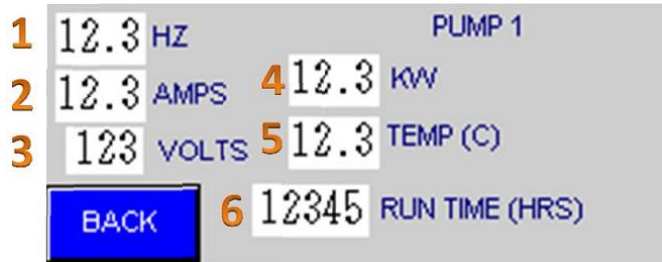

Figure 8. Pump 1 Current Operating Values Screen
7. **Pump Info.** Display the current running data of the pump, Figure 8.
1. See Figure 8, Pump 1 Current Operating Values, for descriptions.